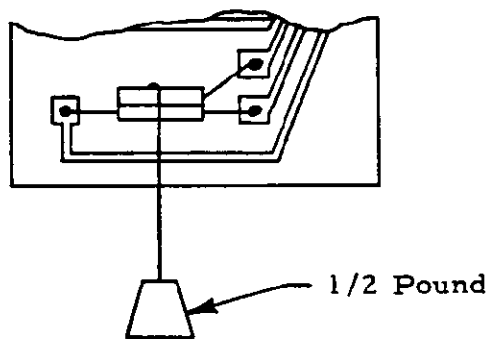

Figure 7
- (d) After 1, 2, 4, 8, 16 and 33 days, samples shall be removed from oven and stabilized at room ambient temperature, and disturbed by applying momentary force of .5 pound to center of connector in a plane parallel to test board per Figure 7. Termination resistance measurements shall be taken initially and after disturbance on 8th, 16th and 33rd days only. At no time shall samples remain out of oven for more than 1 day.
Connectors shall be selected at random from current production. Test groups 1 through 4 shall be mounted on printed circuit boards per Figure 7 and shall consist of 24 samples per wire combination. Test groups 5 and 6 shall consist of 24 samples per wire combination. Test groups 7 and 8 shall consist of 48 samples per wire combination. All connectors shall be applied to PIC wire meeting requirements of AMP Specifications 114-6002 and 115-6026.